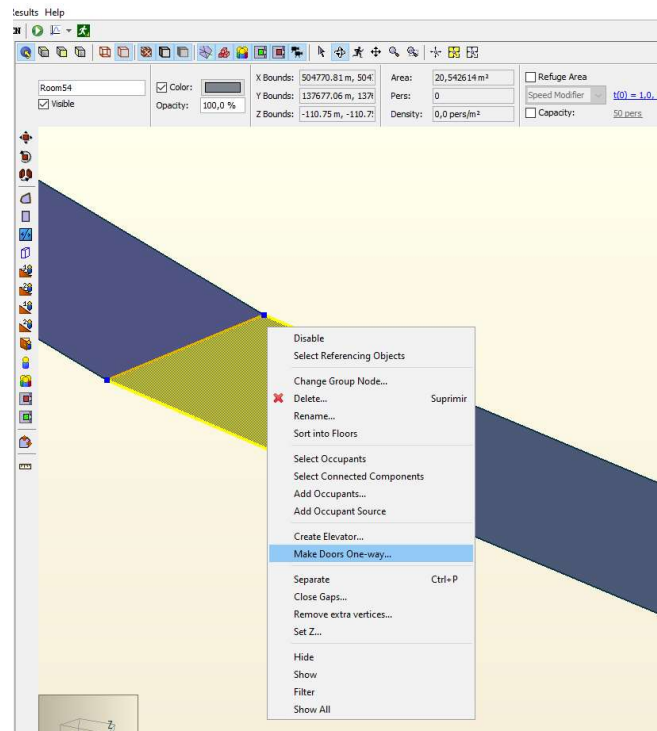

Figure 9 – Example of Preventing Room Crossing in a Coal Mine Modelled in Pathfinder
- A dialog will appear as in *Figure 9*. From this dialog, choose whether occupants can only Enter or Exit the room. If any of the room's doors were already marked as one-way, another option will be provided to overwrite the one-way status of those doors. Press OK in this dialog to make the doors one-way.